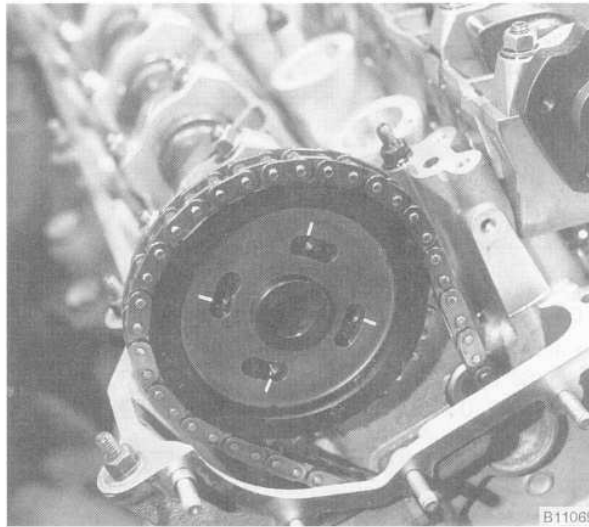

Fig. 29. Primary chain sprocket correctly aligned to exhaust camshaft. Camshaft holes should be on left most side of sprocket holes.
8. Mount the primary chain sprocket to the primary chain so that the arrow on the sprocket faces up. Mount the sprocket to the exhaust camshaft such that the tapped holes in the camshaft are on the left side of the elongated holes in the sprocket. See Fig. 29.